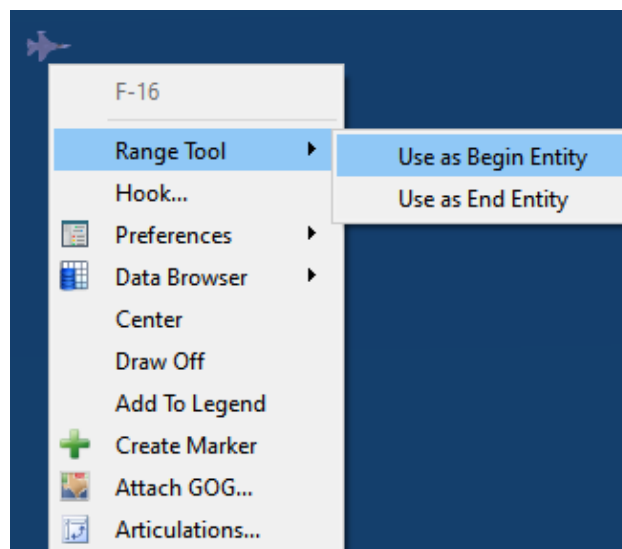

Figure 5.58: Range Tool's Right-Click Menu
- While the **Range Tool** is open, you can **right-click** an entity and set it as either **Begin Entity** or **End Entity**, shown in Figure 5.58.